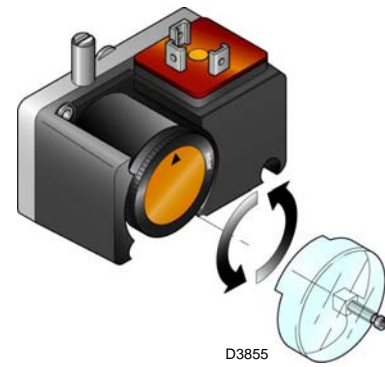

Fig. 35
- Adjust the pressure switch for the valve leak detection control device (PVP kit)(Fig. 35 at page 33), if present, according to the instructions supplied with the kit itself.
Adjust the pressure switch for the valve leak detection control device (PVP Kit)(Fig. 35), if present, according to the instructions supplied with the Kit itself.